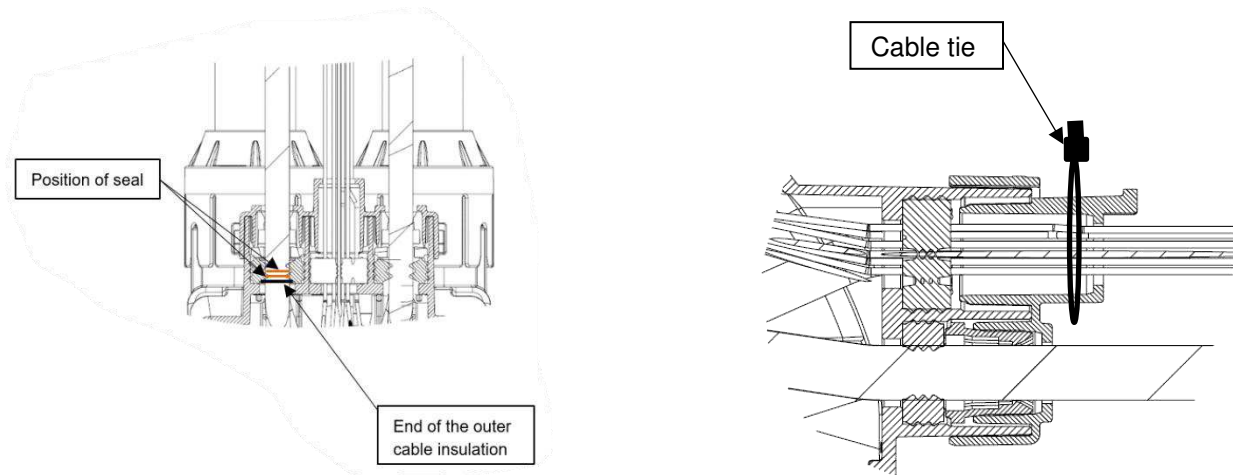

Figure 36a – AC seal lips
**ATTENTION:** Ensure that the AC cable is well positioned in the SEAL, that all seal lips are safely placed on the outer isolation of the cables. (Figure 36a)
Push the AC, PE and SIGNAL COVER over it and snap it on the CABLE EXIT LARGER AC 2390858-4. Ensure that both hooks are correctly engaged (double audible click), see Figure 36a.
Place a CABLE TIE, (Black, 2.5 mm wide, 1mm thick, 100mm long, min. tensile strength: 80N) around the single wire signal cables and the bridge at the SIGNAL COVER and pull tight, see Figure 36a.